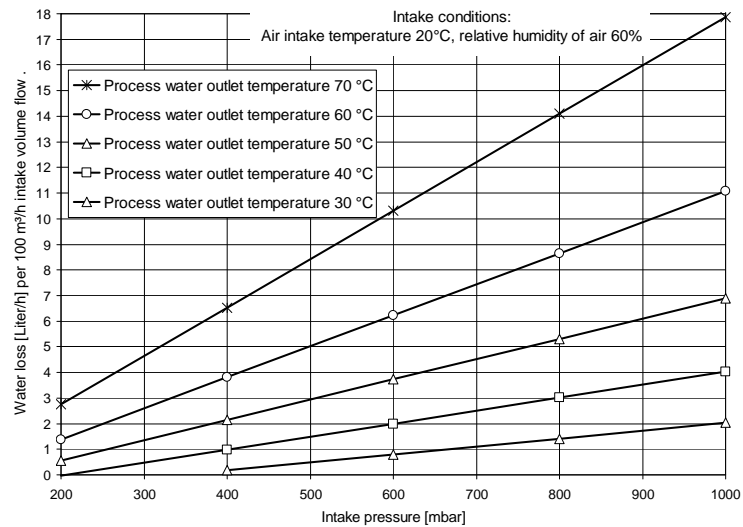

Fig. 2: Process water delivery
Fig. 2 shows the process water delivery from the reservoir for an intake volume flow of 100 m3/h as a function of intake pressure and process water temperature.
- Water loss for intake pressure and process water outlet temperature according to Fig. 2: